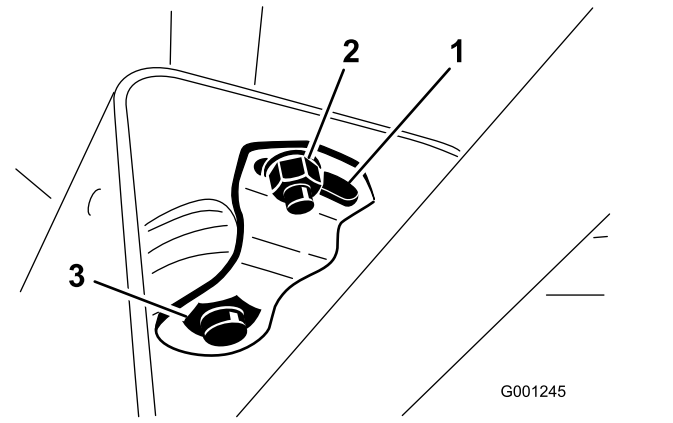

Figure 27
- 3. Loosen the small nut and rotate the pivot bracket until it tightens the large nut below it (Figure 27).
- 2. Slide the cover up the steering shaft to expose the pivot bracket (Figure 27).